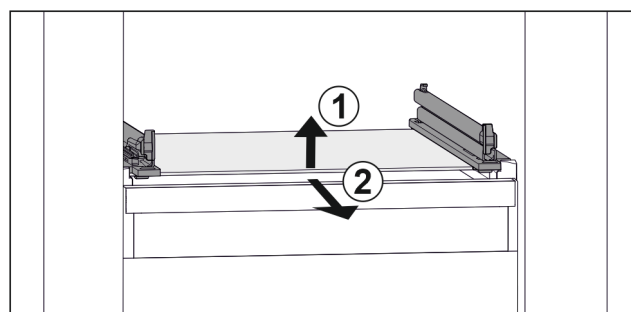

Fig. 138 Example illustration of glass shelf
- ▶ Lift glass shelf at the front. Fig. 138 (1)
- ▶ Remove glass shelf to the front. Fig. 138 (2)